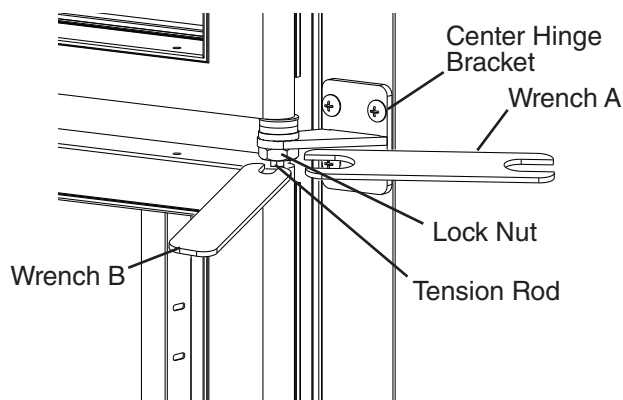

Fig. 42
- 3) At the center hinge, place wrench B on the tension rod and hold (prepare for tension pressure), then using wrench A, loosen the lock nut. See Fig. 42.